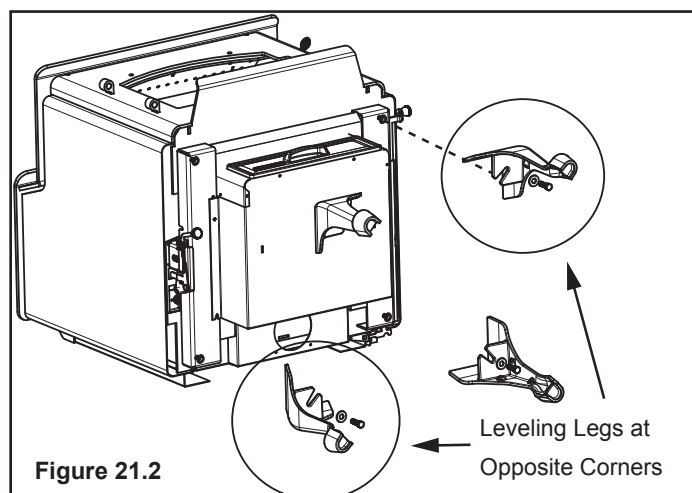

Figure 21.2
10. Add knob to handle rod (**Figure 21.2 on page 21**).
4. Install legs onto leg brackets making sure the legs are up against the bracket and secure with bolts and washers using a 3/8 open end wrench (**Figure 21.2**).
5. Install leveling bolts into 2 legs; these leveling legs should be in opposite corners (**Figure 21.2**).